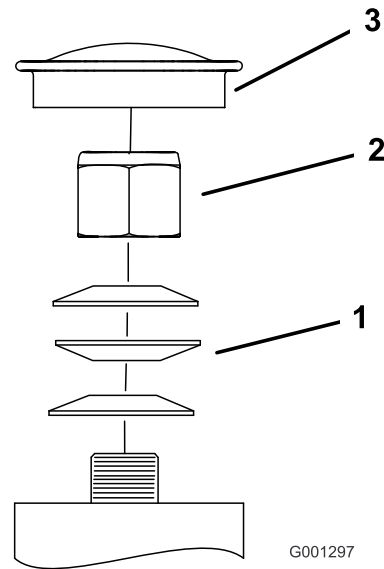

Figure 68
3. Remove the dust cap from caster and tighten the lock nut (Figure 68).
4. Tighten the locknut until the spring washers are flat, and then back off a 1/4 turn to properly set the preload on the bearings (Figure 68).
Important: Make sure that the spring washers are installed correctly as shown in Figure 68.
5. Install the dust cap (Figure 68).